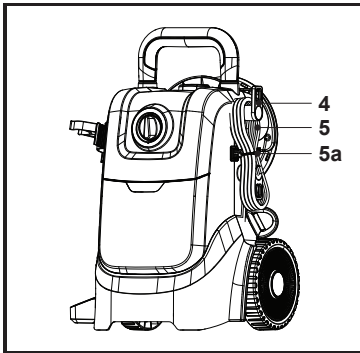

Fig. 23
2. Wrap the power cord (5) around the two cord anchors (4) and secure it in place with a supplied cord clip (5a) (Fig. 23).